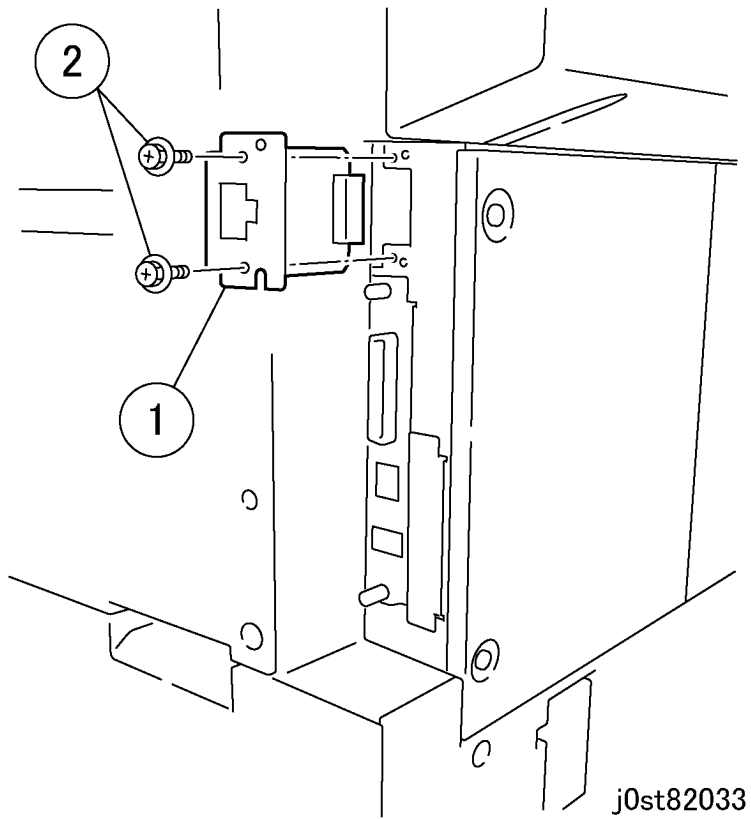

Figure 2 Installing the Accessory IF PWB (j0st82033)
2. Use the screws (x2) removed in Step 1 to install the Accessory IF PWB. (Figure 2)